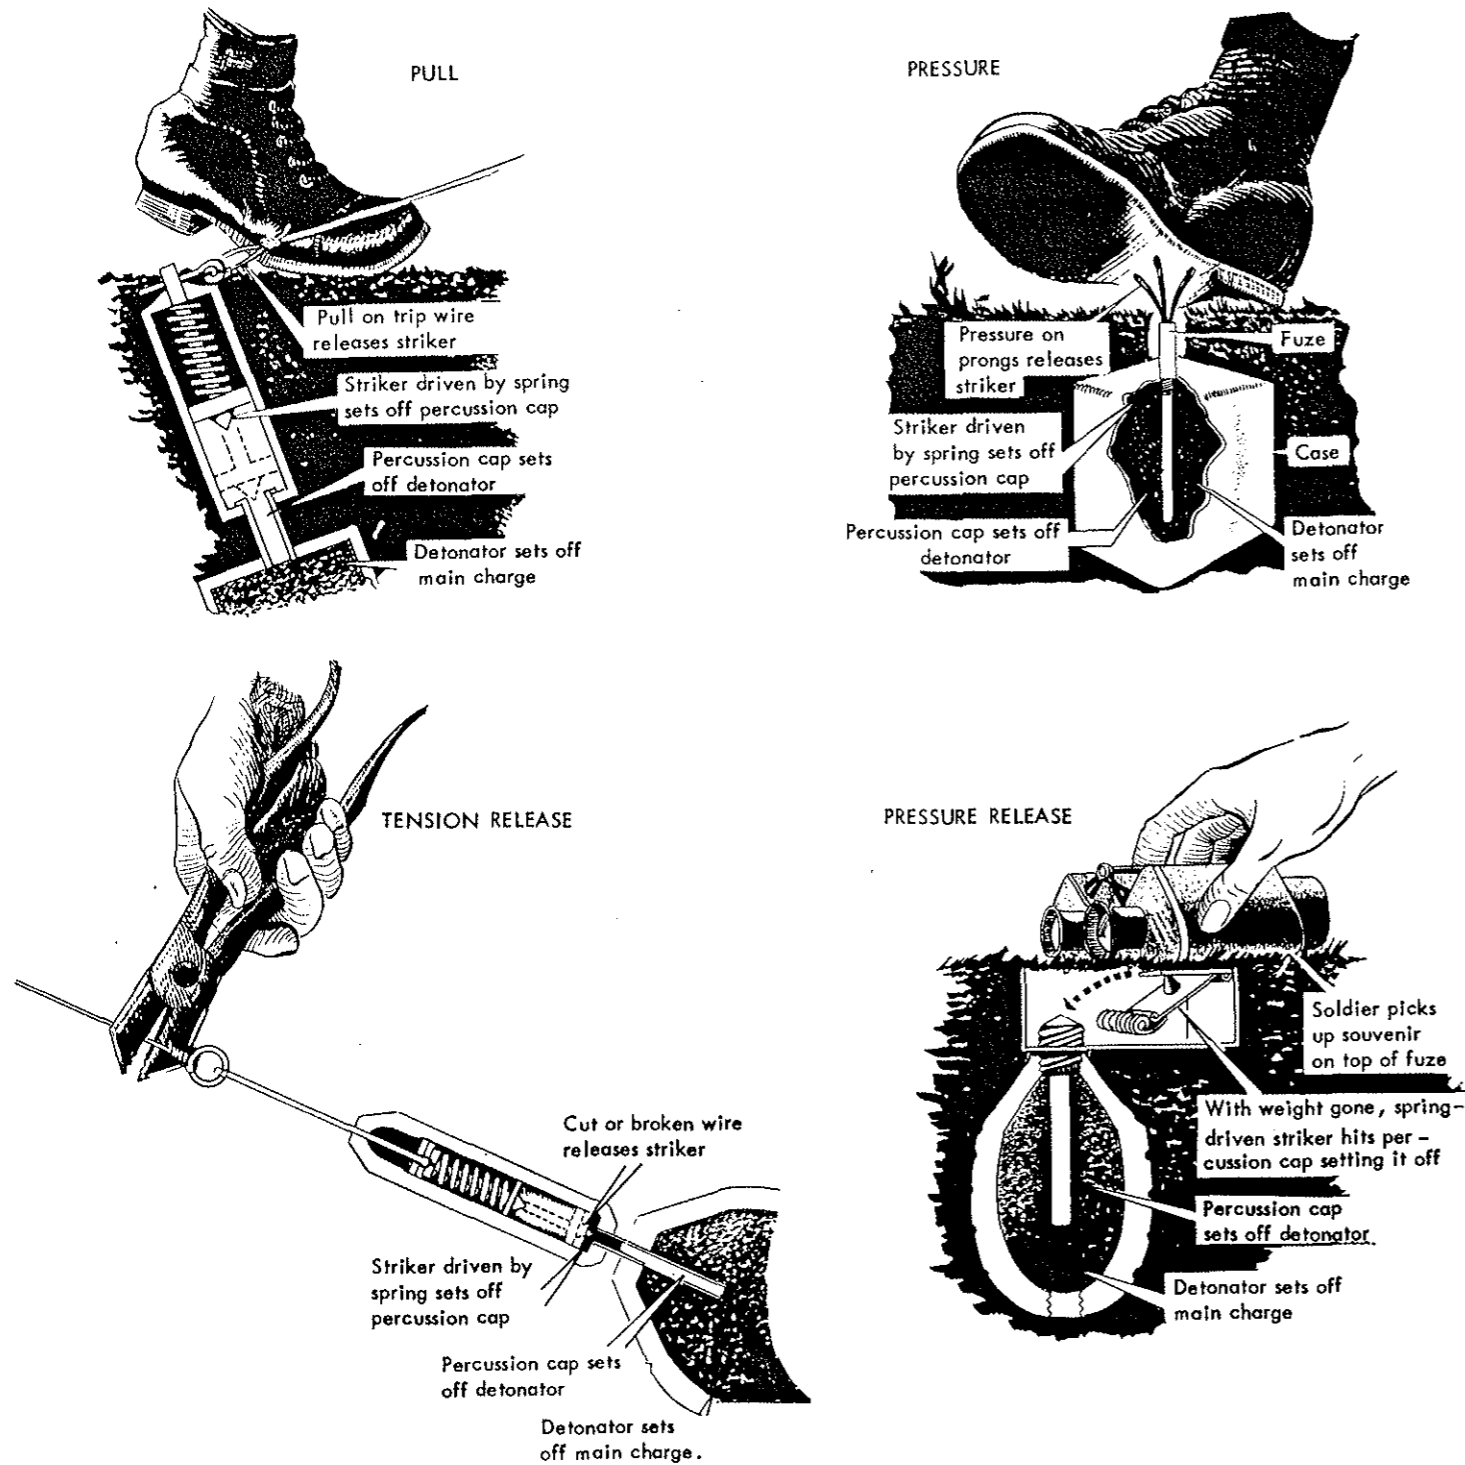

Figure 38.
1. The fuze is the device which initiates the explosive action, either instantaneously or after a set period of delay. The fuze is actuated by personnel, boats, or vehicles by one or a combination of the following: pressure pull, tension release, or pressure release (fig. 38). Fuzes are usually designed for use with a particular mine, for use under special conditions, or for special
purposes (i.e., booby traps) (fig. 38). The fuze is usually kept separate from the mine until the mine is to be used. There are four basic types of fuzes.